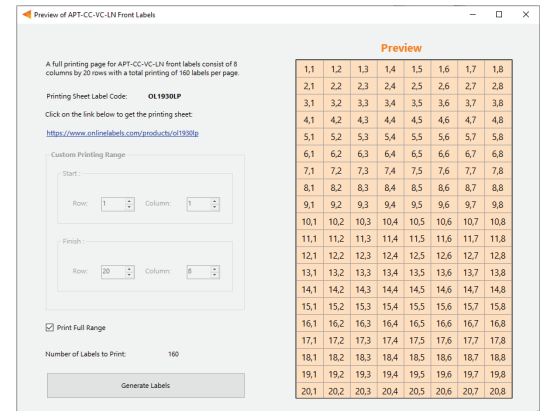

Figure 12: Label generation print preview window
- 4 Input the starting and finishing rows and columns that will fit on the labels. The selected range is highlighted in blue (Figure 12).